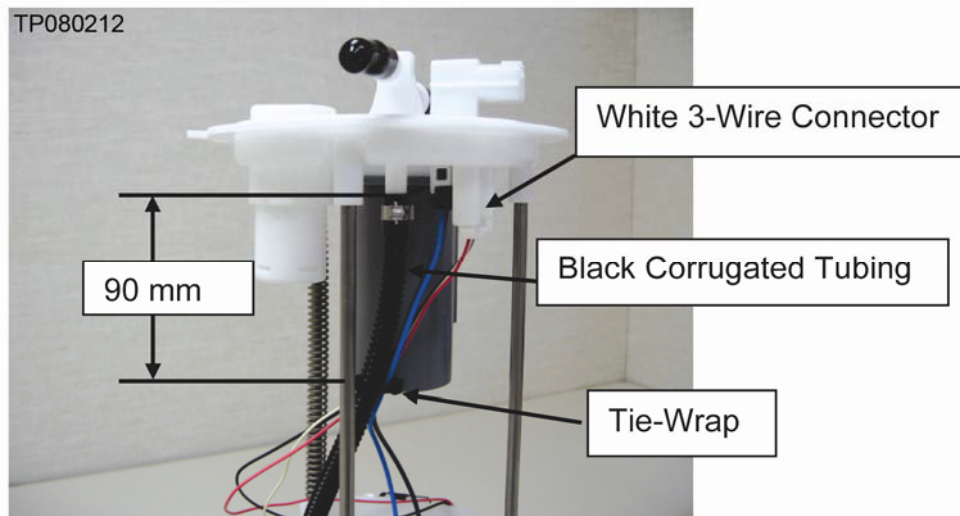

Figure 6
- d. Connect the White Wire Connector into the top of the Fuel Pump (see Figure 6).
- f. Use the new tie-wrap to secure all the wires to the black corrugated tubing (see Figure 6).